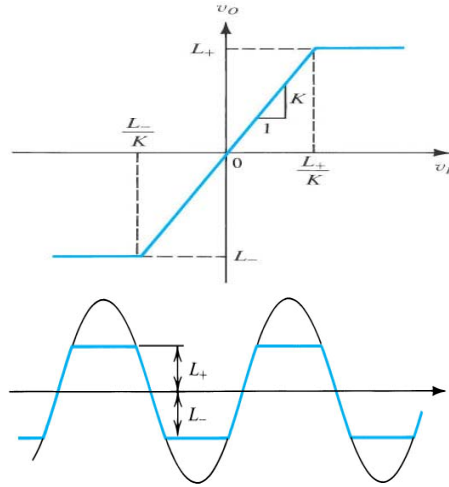

Figure 5.25: Transfer characteristic for a limiter circuit.
- Eq. (5.26) and Figure 5.25 show the transfer function of limiter.